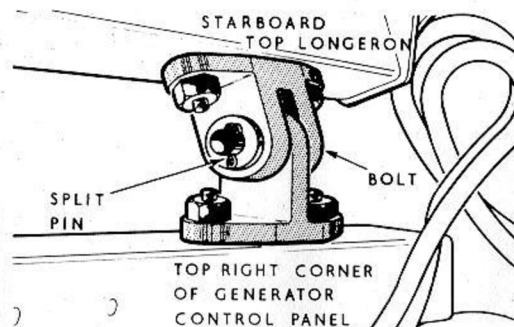

FIG. 2 GENERATOR CONTROL
- (1) Render the aircraft electrically safe, as described in Group A.1 of this chapter.
- (2) Remove the radio access door.
- (3) Disconnect cable assembly F49 from the plug located at the top of the supply panel. Seal off the plug and socket with an approved cap and cover.
- (4) Disconnect cable assemblies C37, C38, F52 and C5 from the differential cut-outs and the battery relay mounted on the control panel. Remove any straps and clips securing these cable assemblies, insulate the bare cable ends and stow the assemblies away from the panel.
- (5) Disengage the four Dzus fasteners securing the bottom of the panel and, with a second person supporting the panel, withdraw the two top hinge pins by removing the split-pins and washers (fig. 2).
- (6) Lower the panel and remove it from the aircraft, complete with cable assembly F49.